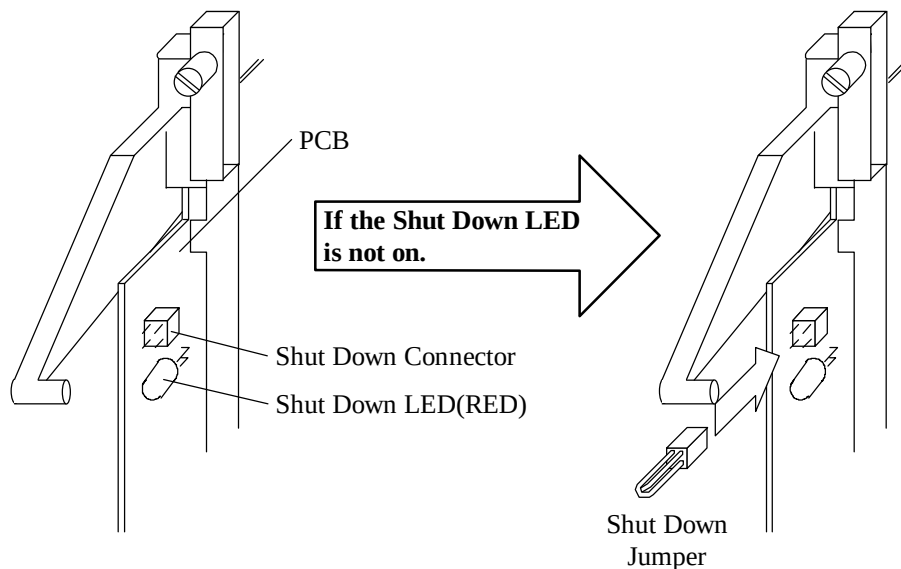

Fig. 4.7.4-1 Shut Down LED
- a. Confirm that Shut Down LED is on.(Fig. 4.7.4-1). If the LED is not on, connect the Shut Down Jumper to the Shut Down Connector.
- a. Remove the Bracket③ and Strain Relief ② referring to Fig 4.7.4-2.